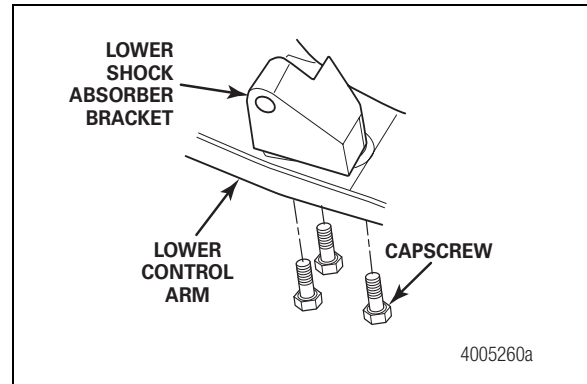

Figure 7.10
- Position the lower shock absorber bracket onto the lower control arm. Install the three capscrows that secure the lower shock absorber bracket to the lower control arm. Tighten the capscrows to 180-188 lb-ft (245-255 N•m). Figure 7.10.